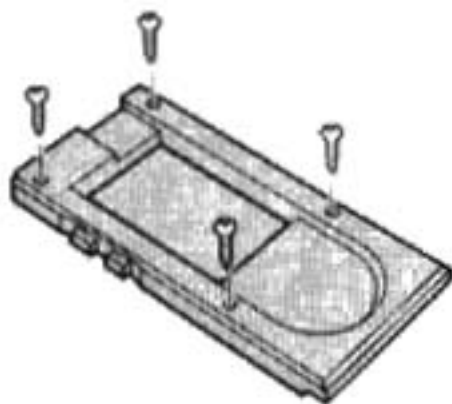

Figure 4-1
a. Disassembly: Turn the Hand Controller upside down on a flat surface and hold it firmly. Use a Phillips-head screw driver to remove the 4 screws. Remove bottom screws first. Set all 4 screws aside in a safe place. Refer to Figure 4-1 below.